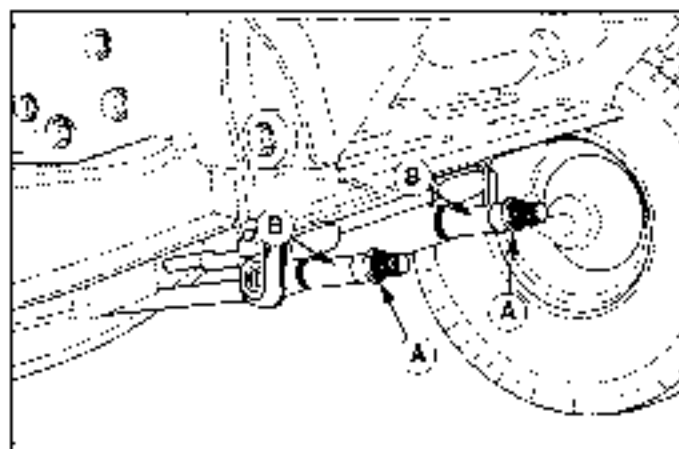

Figure 27. Leveling the Mower Front-to-Back
8. To raise front of mower deck, tighten locknuts (A, Figure 27) against spacers (B). To lower front of mower deck, loosen locknuts (A). Locknuts must be turned evenly on both sides to keep deck level.
9. Re-check the blade measurement, then tighten the front locknut (A) against the bracket to secure.